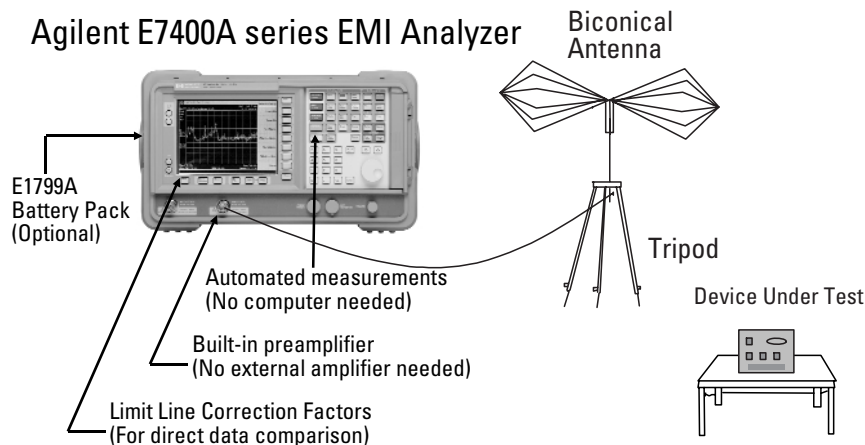

Figure 11. Radiated emissions test setup
1. Arrange the antenna, EUT, and the EMC analyzer as shown in Figure 11. Separate the antenna and the EUT by 3 meters. (Use 10 meters if it is called out in the regulation. If space is limited, correct the results for the difference in distance from 3 to 10 meters, which is 10.45 dB.) It is important that the antenna not be placed in the "near field" which is $\lambda/2\pi$ away from the EUT or closer. The Agilent E7400A series has a built-in amplifier with 20 dB gain and 7 dB noise figure. For increased gain, use the Agilent 11909A amplifier with 32 dB gain and 1.8 dB noise figure.